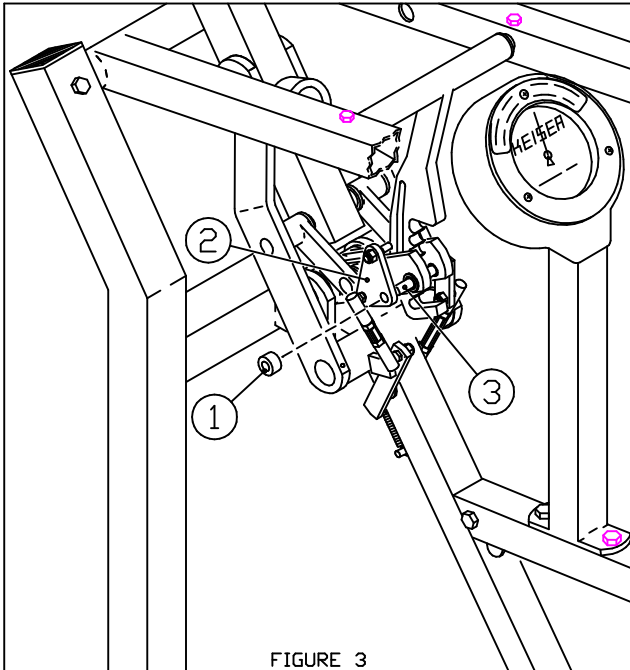

FIGURE 3
1. USING A 1/8" ALLEN WRENCH, REMOVE THE SHAFT COLLAR (ITEM 1) AND ENGAGEMENT BRACKET (ITEM 2) FROM THE ROTATE LINK (ITEM 3). ALLOW THE ENGAGEMENT BRACKET TO HANG FROM THE SIDE OF THE MACHINE UNTIL ASSEMBLY. (SEE FIGURES 3 & 4)